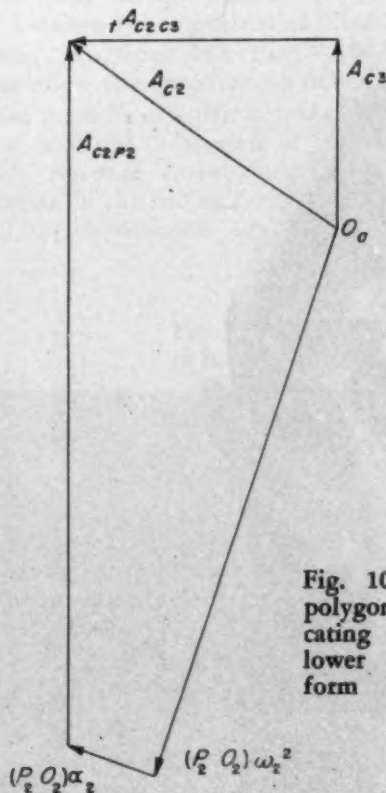

Fig. 10—Acceleration polygon for reciprocating flat-faced follower with nonuniform cam rotation
**NONUNIFORM CAM SPEED:** The analysis presented is a general one, even though the case analyzed has been for a constant angular speed of the cam. The analysis may be extended, with no increase in difficulty in the solution, to the case where the cam is rotating with an angular acceleration. The acceleration polygon, as well as the equation for radius of curvature, must be modified to take into account the effect of the angular acceleration of the cam. Fig. 10 has been drawn to show the acceleration polygon for a counterclockwise angular acceleration of the cam. The change from Fig. 4b has been the introduction of the tangential component of acceleration:  $(P_2 O_2) \alpha_2$ . It is to be noted that an angular acceleration of the cam will affect the radius of curvature. In this case, the radius of curvature is decreased from the case where the cam is rotating at a constant angular speed. It is to be noted, also, that if the angular acceleration of the cam were taken clockwise, the necessary radius of curvature would have to be increased, compared to the case where the cam is rotating at a constant angular speed.
The equation for radius of curvature, derived from Figs. 10 and 4a and presented without any discussion, is